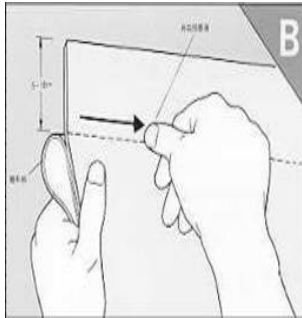

Figure 1.
4. Align the Product and use a finger to tack it to the substrate. See Figure 1.